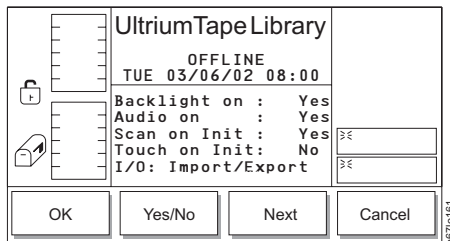

Figure 4-116. Config Dialog
3. Press the button below the **Config** softkey. The Config Dialog displays (see Figure 4-116) with the following information: